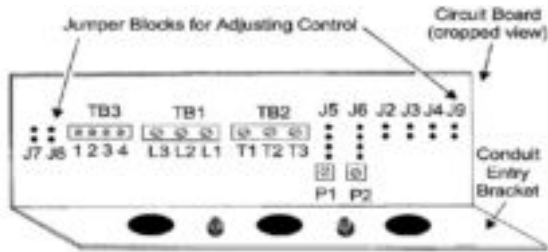

FIGURE 8 - Jumper Block Locations
11. Check positioning of two jumpers to assure proper operation of VFD66 control. See Figure 8.